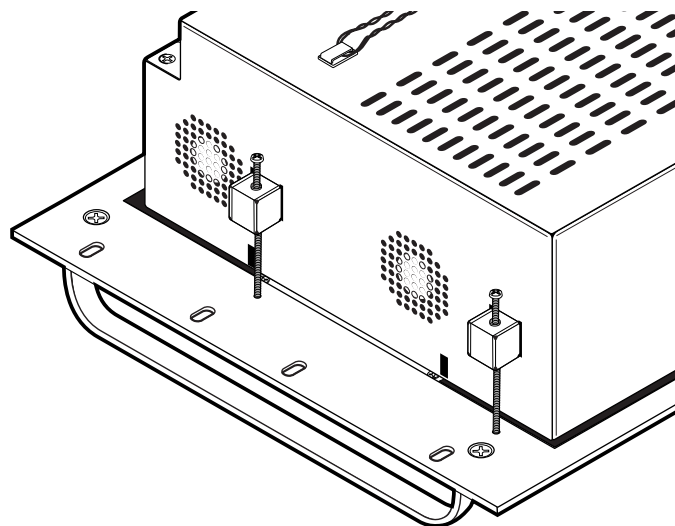

Figure 2-4 — Fully assembled Front Panel Controller
8. Lift the FPC computer and tighten each screw until the panel is firmly flush against the back side of the FPC computer's LCD panel (figure 2-4).